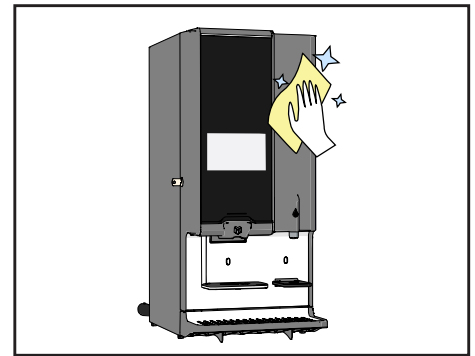
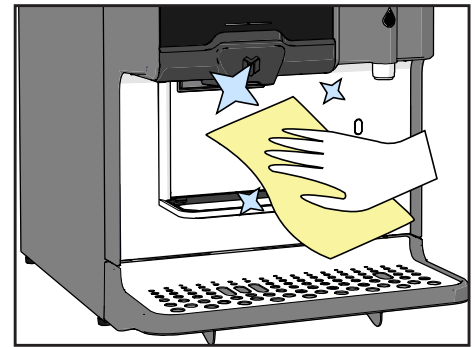

Figure 32.
Figure 33.
20. Clean the outside of the machine with a slightly damp cloth (see Figure 32 and Figure 33).